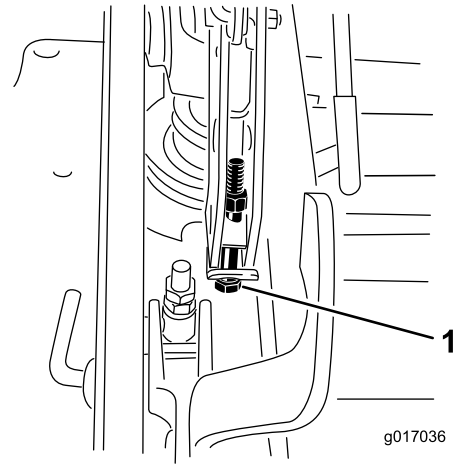

**Figure 73**
10. If needed, loosen the whizlock nut on the side of the yoke and the jam nut on top. Fine tune the screw adjuster by turning it to get 3 inch (7.6 mm) height (see Figure 73).
16. Fine tune the screw adjuster by turning it to get 3-1/4 inches (8.3 mm) height (Figure 73).